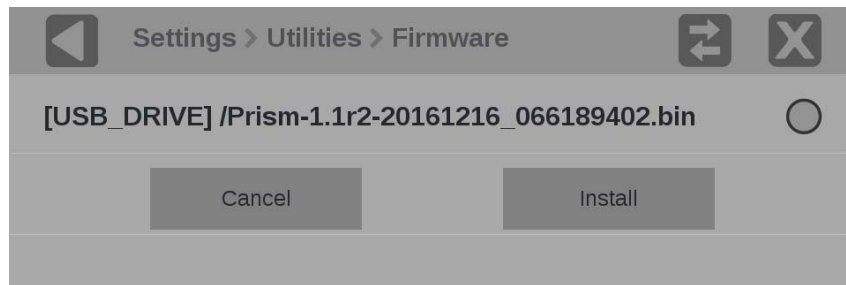

Figure 80: Select the firmware upgrade file
6. Select the required file in the list, and then select **Install** to start the upgrade. (See Figure 80.)